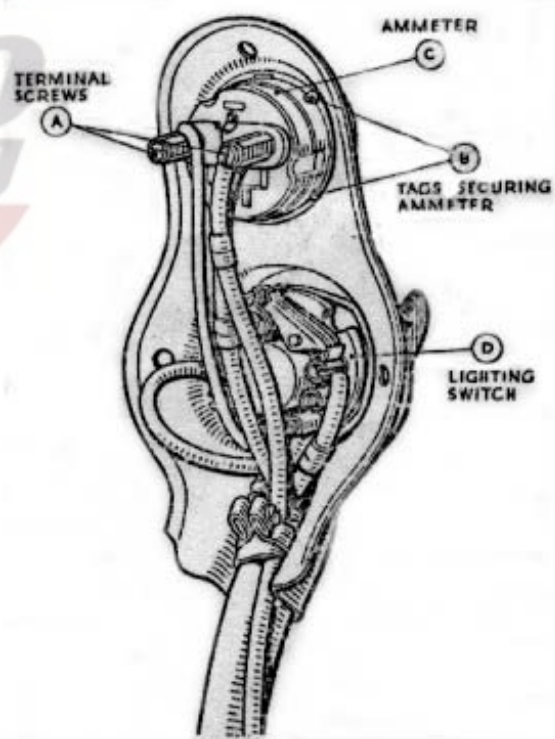

Fig. 70 Panel containing lighting switch and ammeter, removed from headlamp.
(b) Unscrew the ammeter terminal screws (A, Fig. 70) and lift out the cable ends. Bend back the four metal tags (B) securing the ammeter and remove it from the panel. The procedure must be reversed when fitting the replacement ammeter.
All leads to the headlamp are taken direct to the switch which together with the ammeter is incorporated in a small panel (see Fig. 70). The